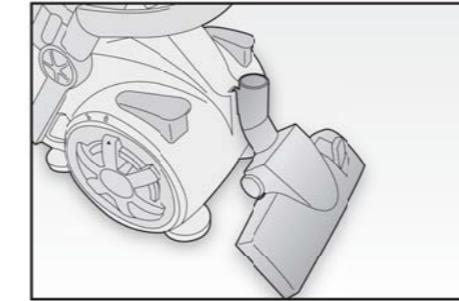

Fig. 5
Put away the appliance, inserting the floor brush (M) into the hook on the back of the cleaner (FIG. 5), if necessary.